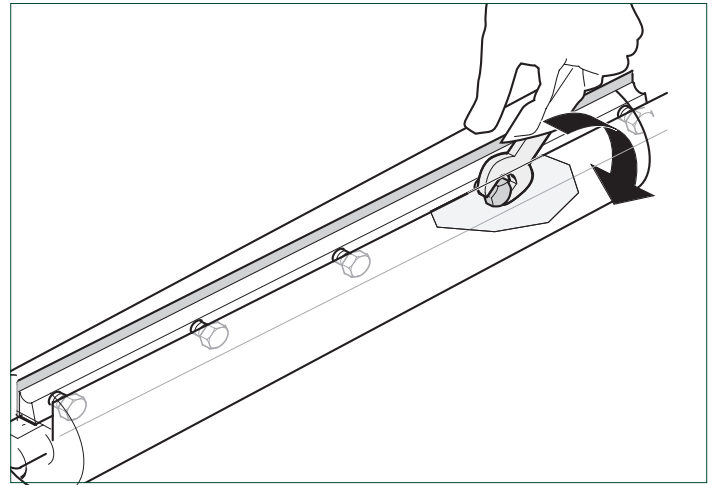

FIG. 18
4. Turn the five hexagon head screws of the cutter knife lockbar fully in wear gloves! (Fig.18).